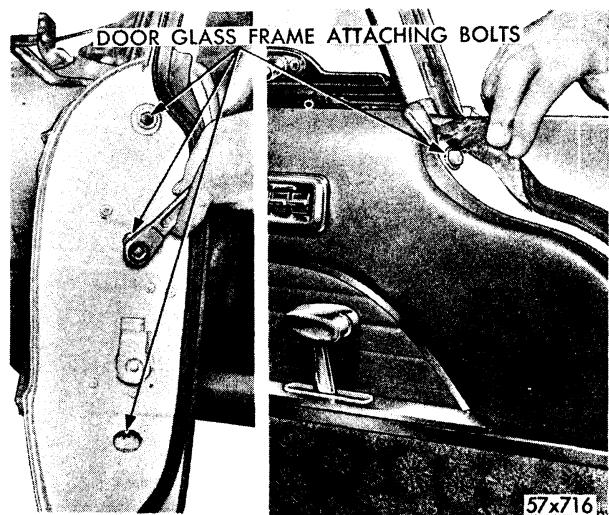

Fig. 55—Removing and Installing Adjusting Frame and Glass Assembly
**NOTE:** To replace glass run channel, front ventilator assembly and window glass, refer to Figure 55. Remove frame to door attaching screws and frame and glass assembly.